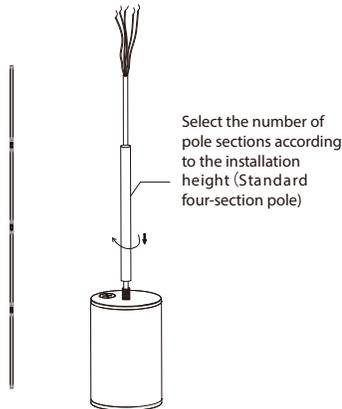

Fig 7
2. Pole and lamp body threaded connection. (Fig 7)